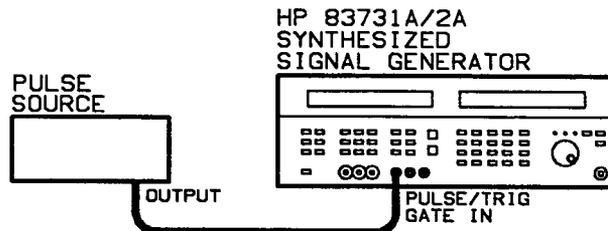

Figure 3-6. External Pulse Modulation Equipment Setup
1. Connect the equipment as shown in Figure 3-6:
To program the Synthesizer to generate the signal explained above, connect the equipment as shown in Figure 3-6, set the pulse source for the desired PRI, width, and delay, and then run the following program.